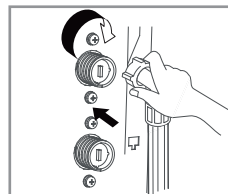

Fig.22
- **Insert the filter into the valve** and tighten up the inlet hose. ( Fig.22 )